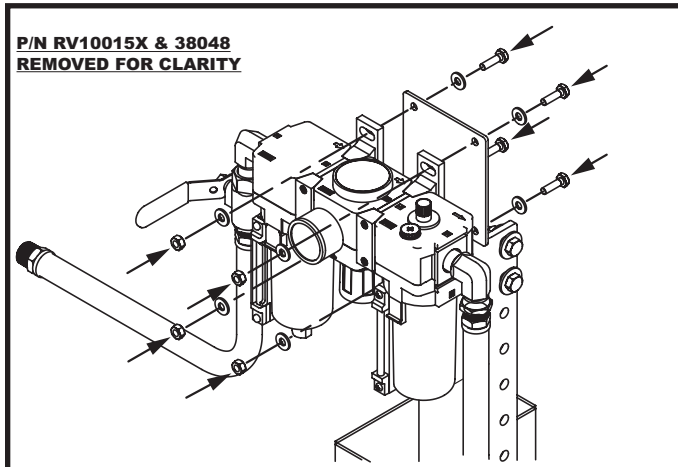

Figure 4. Connecting Optional Airline Control Kit, P/N 39504
1. Install the regulator mounting plate onto the cart assembly using the hardware provided, in the configuration shown in figure 4. (Refer to Figure 4 & 5.)
2. Install the regulator supplied in airline kit onto the mounting plate on the cart using the hardware provide. (Refer to Figure 4 & 5.)